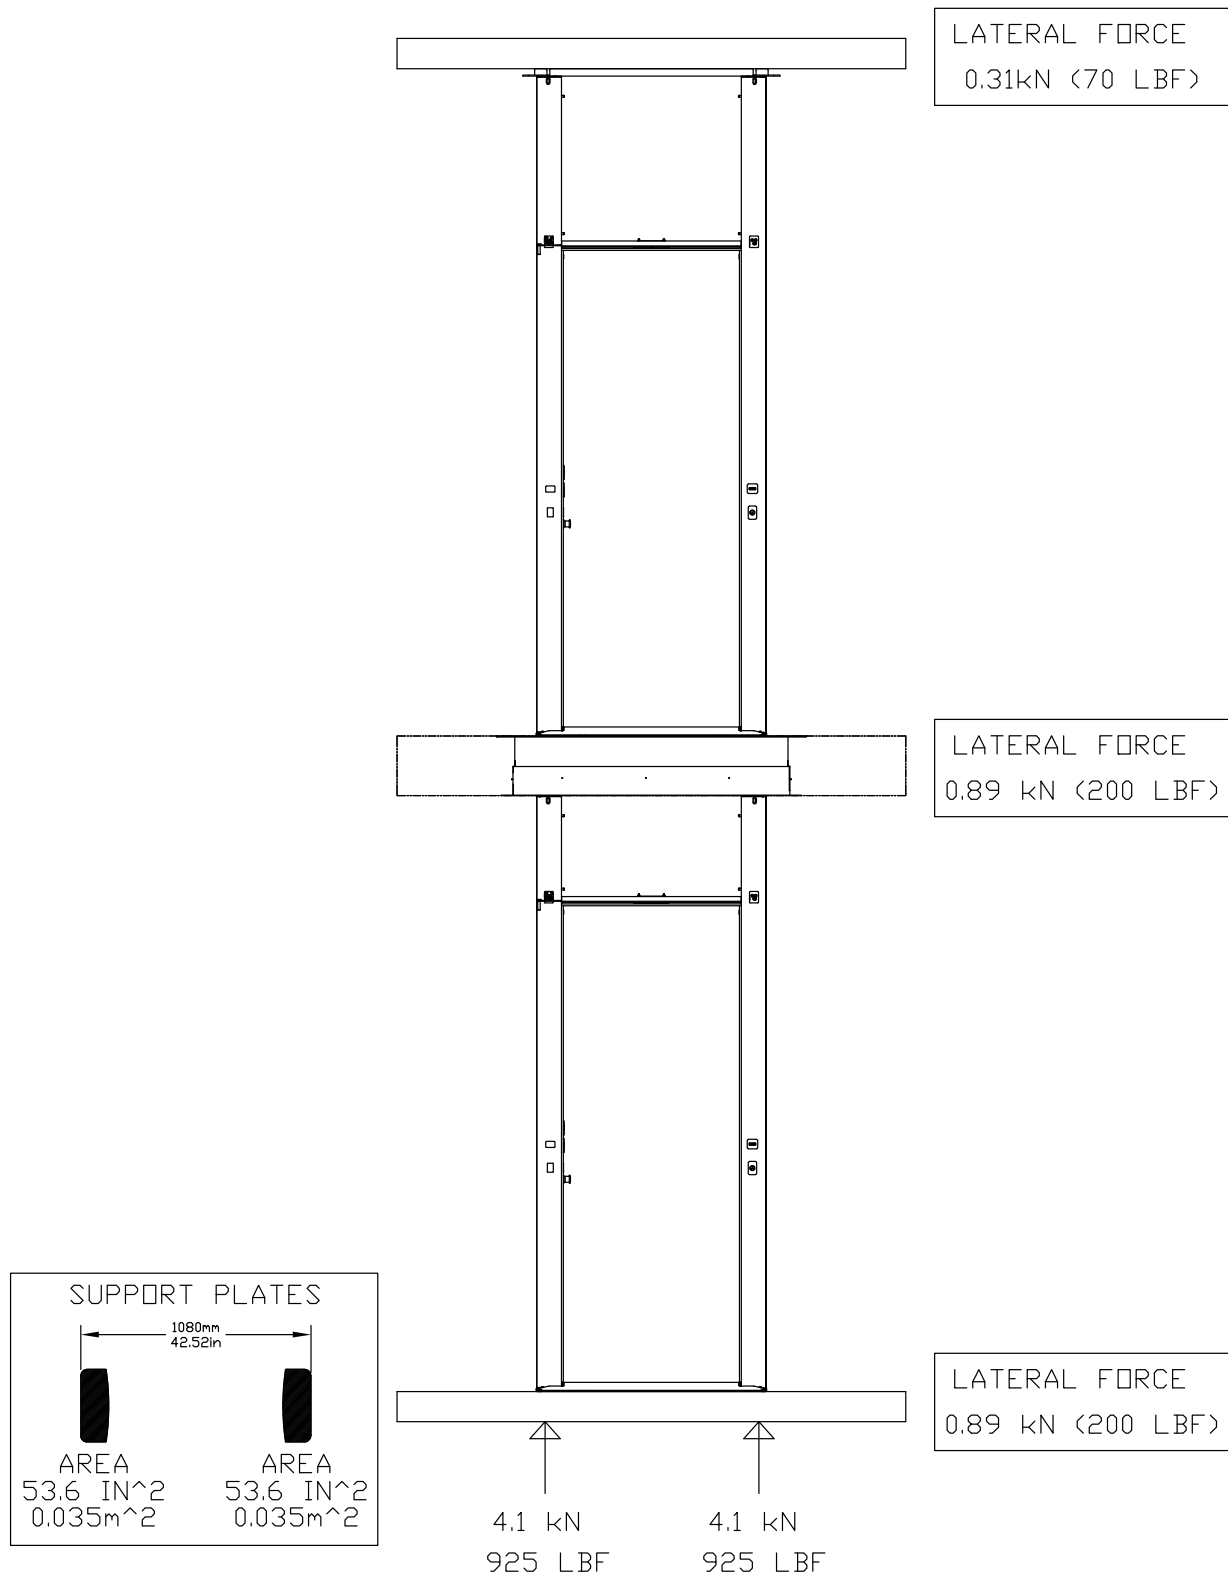

Figure 3: Support Load Diagram
- Luma is designed to transfer the fully loaded elevator weight and impact forces to the lowest level through the rail base plates, provided it is properly installed in a structurally sound building with consistent floor-to-floor heights. (Figure 3)
Luma requires a floor base capable of supporting a minimum load of **1850 lbs (8229 N)**. The loads mentioned below (Figure 3) are per rail.